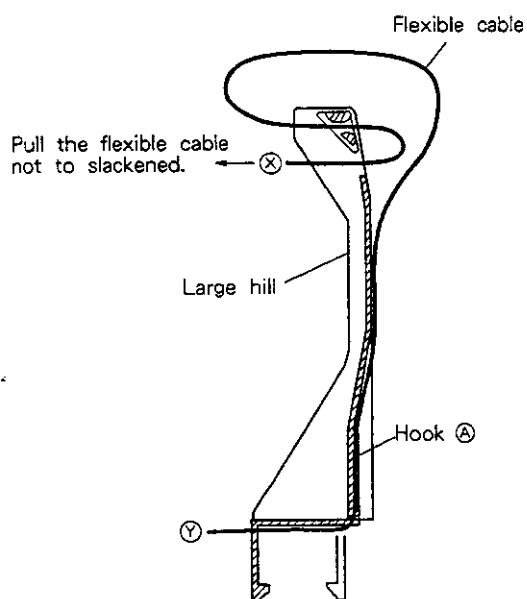

Fig. 17 Sectional plan
④ Pull the flexible cable not to slackened after passing the (X) edge side of flexible cable through the large hill as shown in Fig. 17.